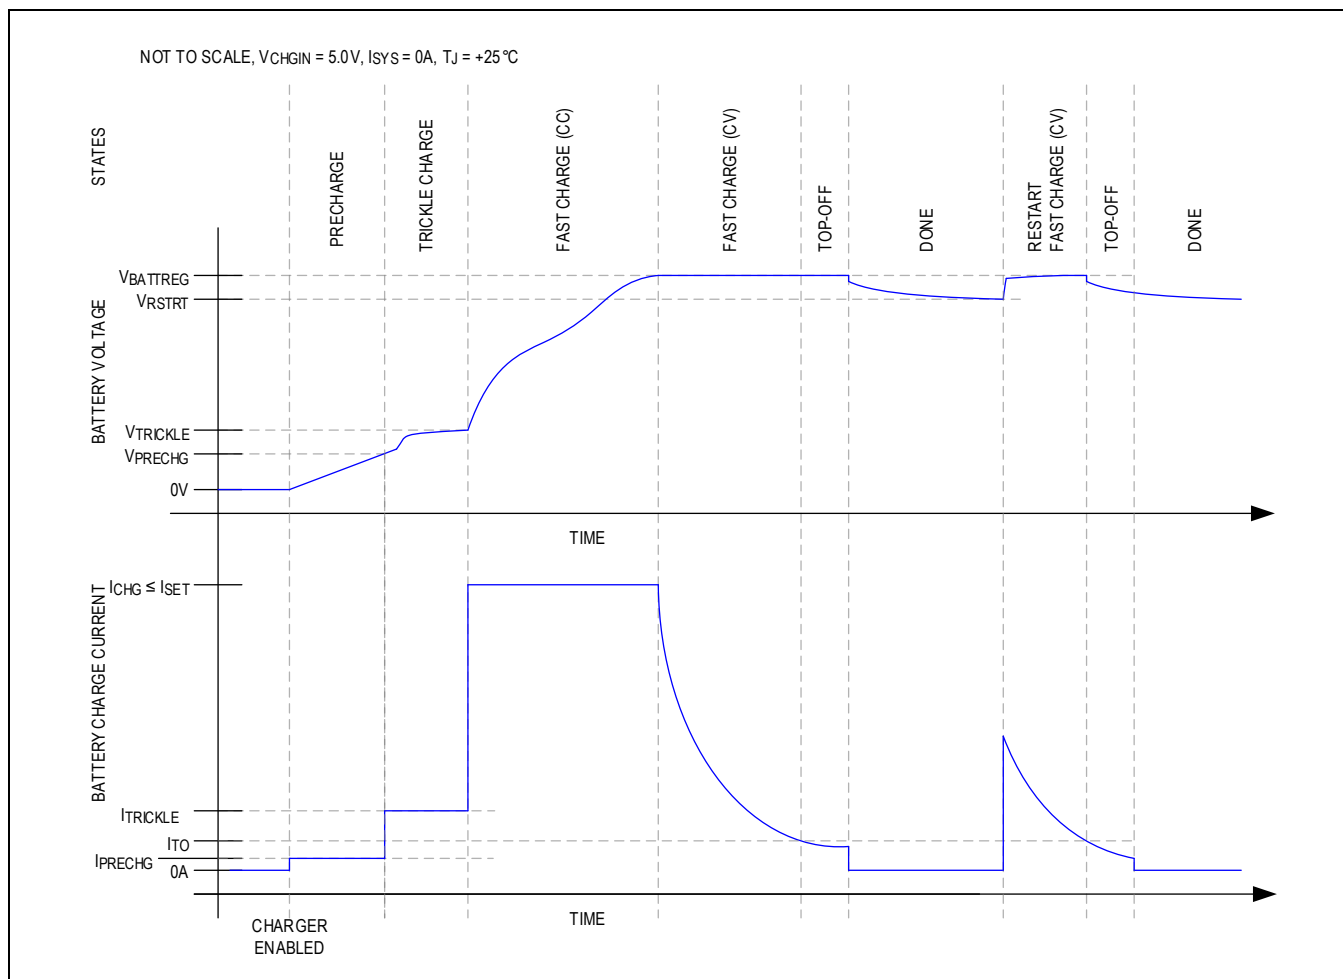
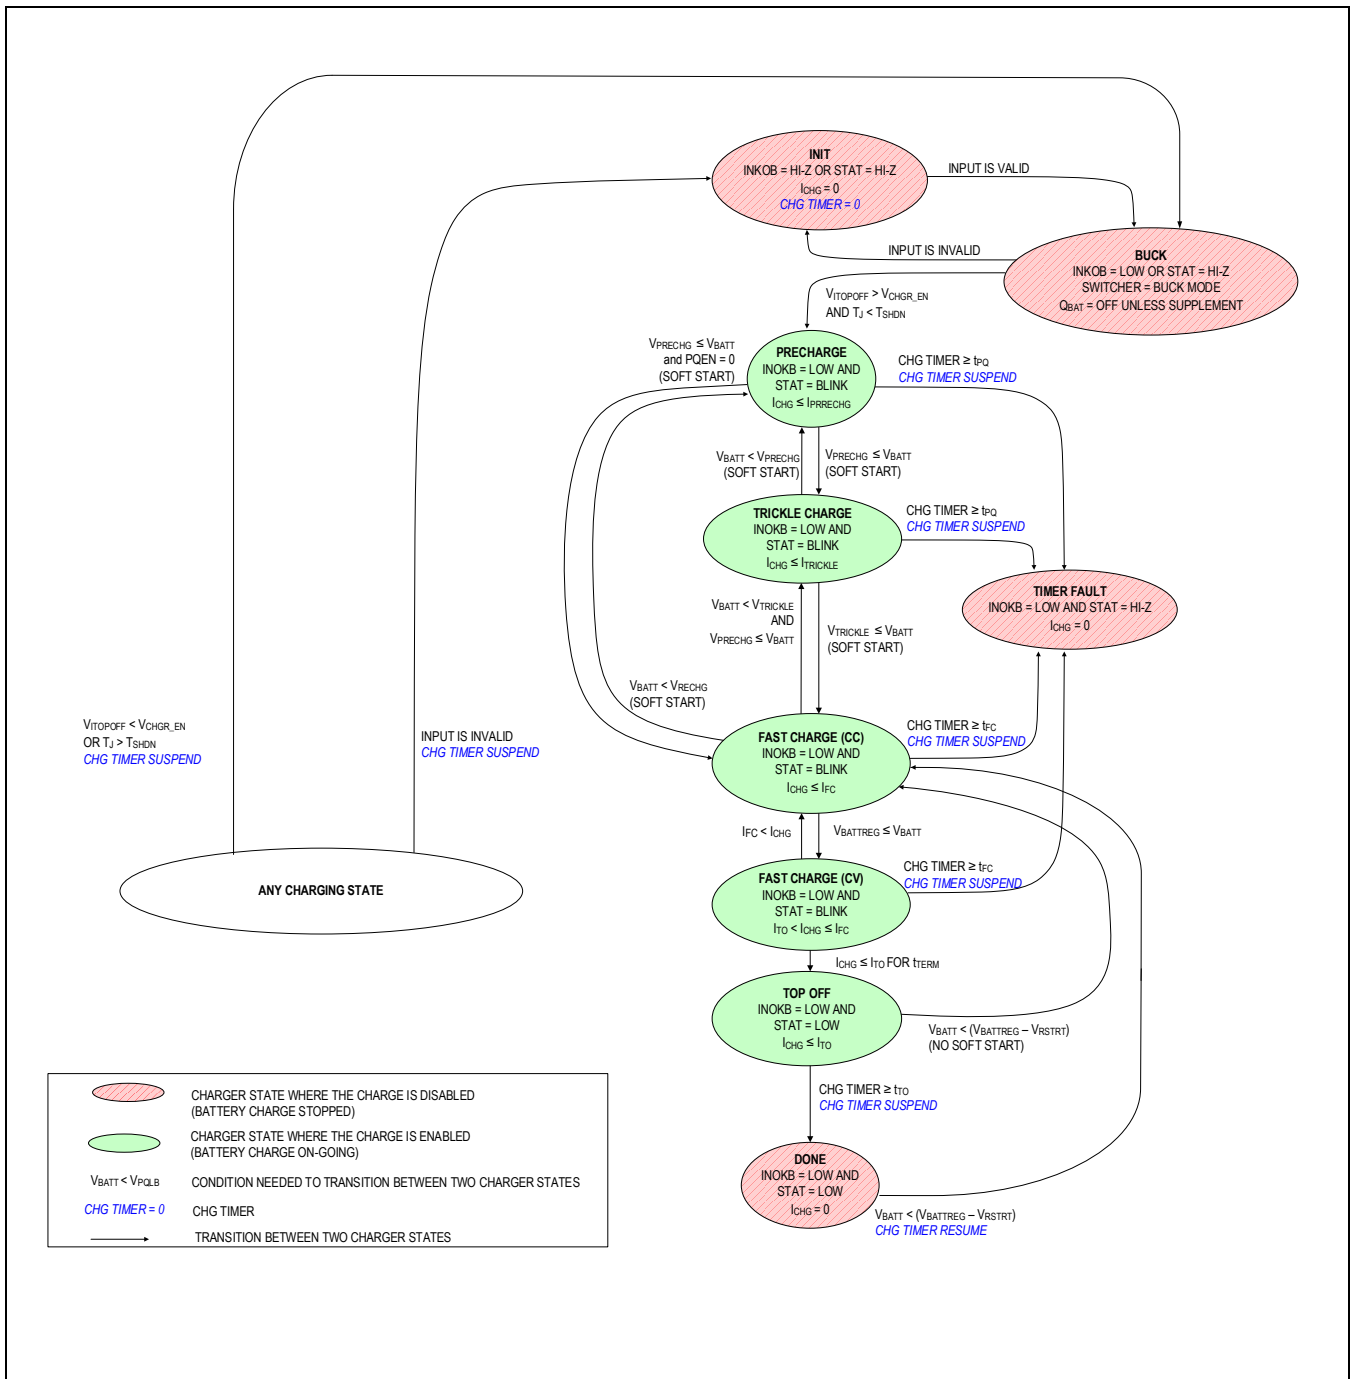

Figure 5. Li+/Li-Poly Charge Profile
Figure 6. Charger State Diagram
The MAX77751 utilizes several charging states to safely and quickly charge batteries, as shown in Figure 5 and Figure 6. Figure 5 shows an exaggerated view of a Li+/Li-Poly battery progressing through the following charge states when there is no system load and the die and battery are close to room temperature: precharge → trickle → fast-charge → top-off → done.
From any state shown in Figure 6 except thermal shutdown, the INIT state is entered whenever the charger inputs that CHGIN is invalid or the charger timer is suspended.
The chip has a state where battery charging is disabled while the charger input CHGIN is valid. The state is called buck state. Entering or leaving buck state is controlled by the voltage of the ITOPOFF pin. If the voltage of this pin is pulled down by an external device (i.e., MCU) under V_{CHGR_EN} , the chip goes to the buck state from any state if CHGIN is valid, as shown in Figure 6. In the buck state, charging is disabled, which means Q_{BAT} is off, unless it is in supplement mode. If the voltage of this pin is over V_{CHGR_EN} , the chip gets out of the buck state and resumes charging. Note that only when CHGIN is valid, charging can be enabled or disabled. Therefore, the external device (i.e., MCU) should check using the INOKB signal if CHGIN is valid before trying to enable or disable charging.
As shown in Figure 6, the precharge state occurs when the battery voltage is less than V_{PRECHG} . In the precharge state, charge current into the battery is I_{PRECHG} .
As shown in Figure 6, the trickle charge state occurs when $V_{BATT} > V_{PRECHG}$ and $V_{BATT} < V_{TRICKLE}$.
As shown in Figure 6, the fast-charge constant current (CC) state occurs when the battery voltage is greater than the trickle threshold and less than the battery regulation threshold ($V_{TRICKLE} < V_{BATT} < V_{BATTREG}$).
As shown in Figure 6, the fast-charge constant voltage (CV) state occurs when the battery voltage rises to $V_{BATTREG}$ from the fast-charge CC state.
In the fast-charge CV state, the battery charger maintains $V_{BATTREG}$ across the battery, and the charge current is less than or equal to I_{FC} . As shown in Figure 5, the charger current decreases exponentially in this state as the battery becomes fully charged.
As shown in Figure 6, the top-off state can only be entered from the fast-charge CV state when the charger current decreases below I_{TO} for t_{TERM} . In the top-off state, the battery charger tries to maintain $V_{BATTREG}$ across the battery, and typically, the charge current is less than or equal to I_{TO} .
As shown in Figure 6, the battery charger enters its done state after the charger has been in the top-off state for t_{TO} .
The battery charger provides a charge timer to ensure safe charging. As shown in Figure 6, the charge timer prevents the battery from charging indefinitely. The time that the charger is allowed to remain in each of its prequalification states is t_{PQ} . The time that the charger is allowed to remain in the fast-charge CC and fast-charge CV states is t_{FC} . Finally, the time that the charger is in the top-off state is t_{TO} . Upon entering the timer fault state, STAT becomes Hi-Z.
In the timer fault state, the charger is off. The charger input can be removed and re-inserted to exit the timer fault state (see the “any state” bubble in the lower left of Figure 6).
As shown in Figure 6, the thermal shutdown state occurs when the battery charger is in any state and the junction temperature (T_J) exceeds the device’s thermal shutdown threshold (TSHDN). When T_J is close to T_{REG} , the charger folds back the charge current to 0A so that the charger is effectively off (see the Thermal Foldback section).